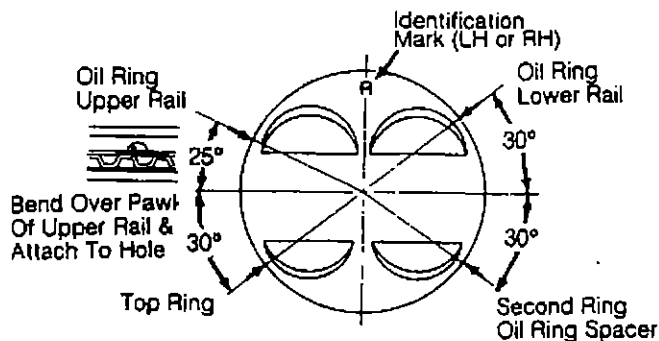

Fig. 9: Positioning Piston Rings
2) Properly space ring end gaps on piston. See Fig. 9. Bend pawl of upper rail over and install it in piston hole. Install piston into cylinder bore.